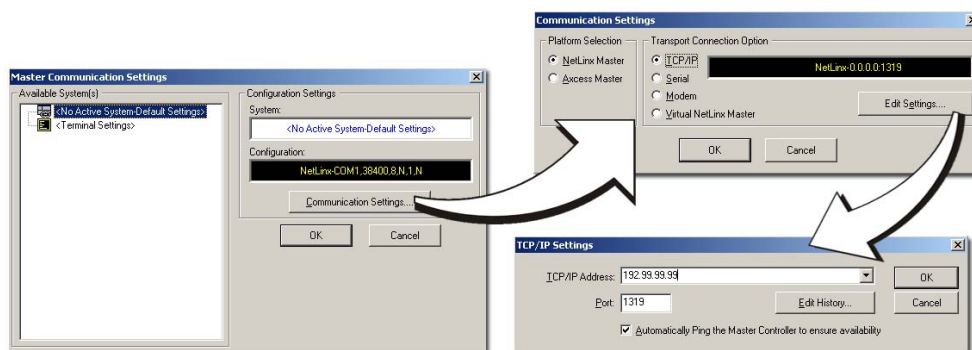

FIG. 22 Assigning Communication Settings and TCP/IP Settings
3. Select **Settings > Master Communication Settings**, from the Main menu to open the Master Communication Settings dialog (FIG. 22).
7. Click the **Edit Settings** button (on the *Communications Settings* dialog) to open the TCP/IP Settings dialog (FIG. 22).